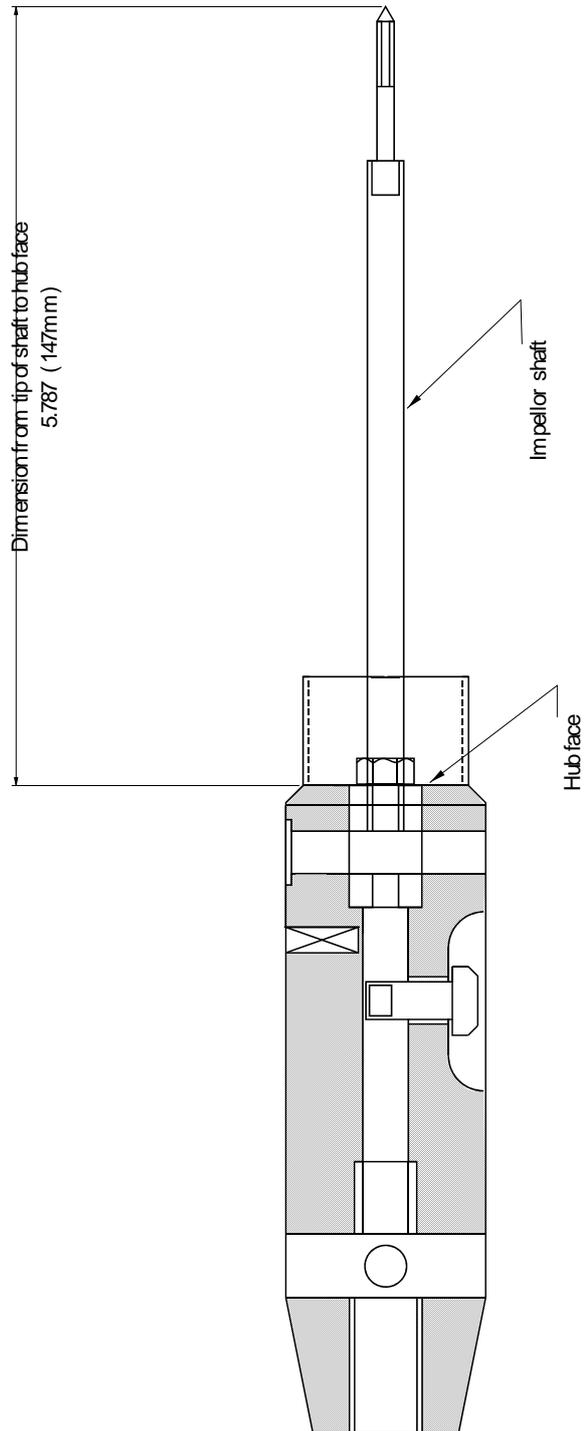

Figure 2 - BFM001 Impeller Shaft Setting
8.2. Figure 2 - BFM001 Impeller Shaft Setting